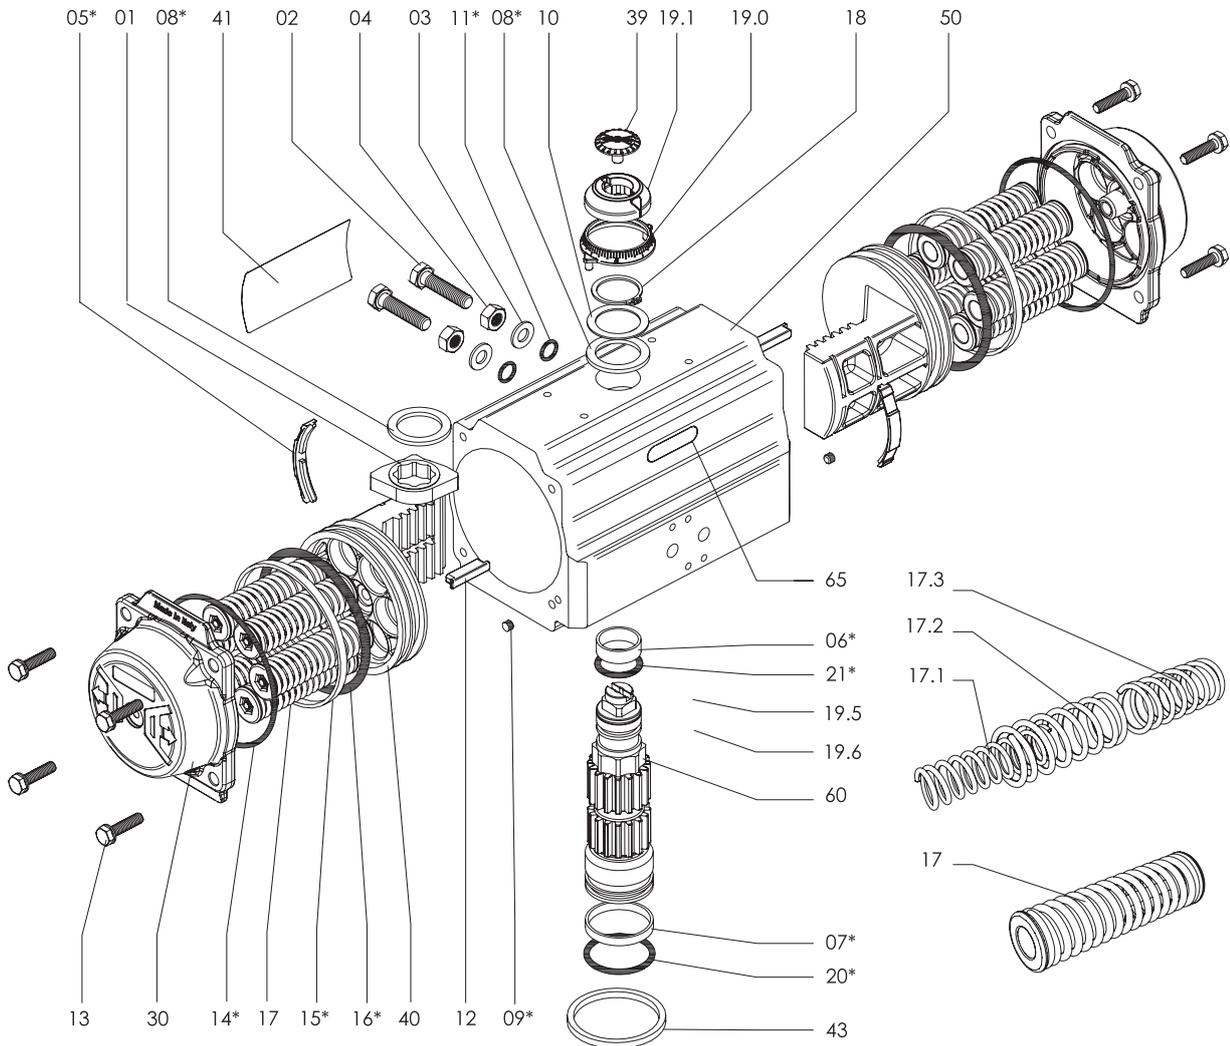

Figure 23
- C. From Figure 23, the ballooned part number, part name and quantity required
TABLE 3 - PARTS LIST FOR (FIGURE 23)